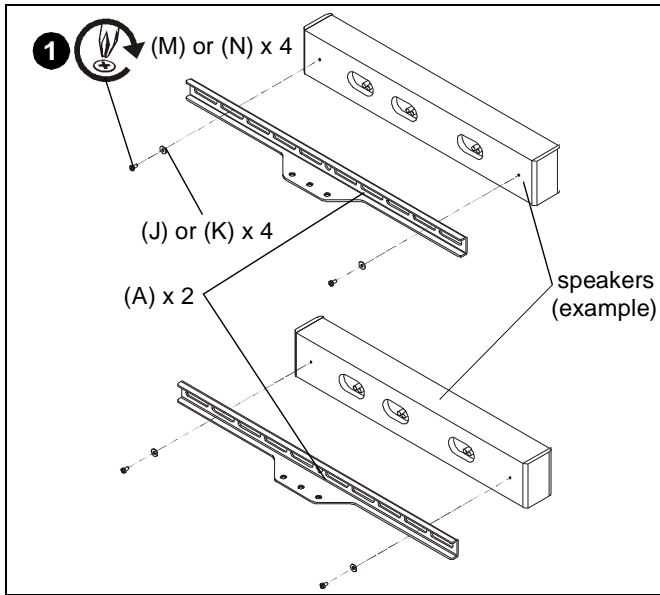

Figure 1
1. Use two 1/4-20 x 1/2" Phillips pan machine screws (M) with four 1/4" washers (J) or four 10-24 x 1/2" Phillips pan machine screws (N) with four #10 washers (K) to secure two speaker brackets (A) to speakers (not included). (See Figure 1)